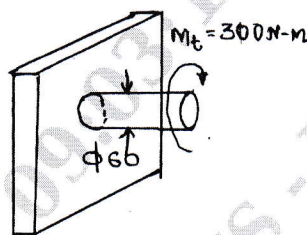

Fig. Q5 (b)
- b. Determine the size of weld for a joint shown in Fig. Q5 (b). The allowable stress in the weld is 70 MPa. (05 Marks)